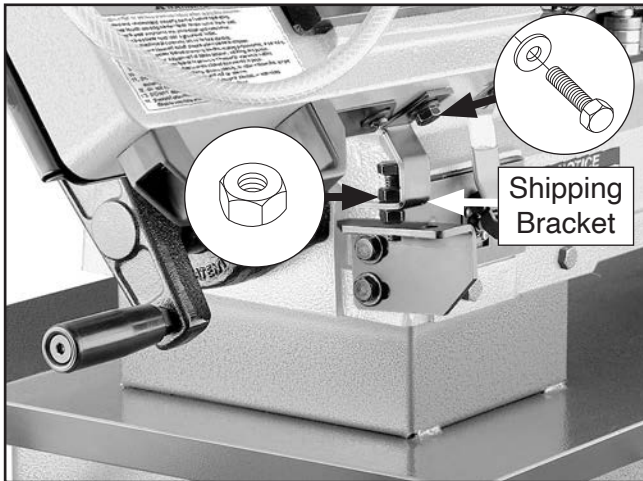

Figure 19. Location of shipping bracket and fasteners.
1. Remove hex bolt and flat washer shown in **Figure 19**.
2. Adjust hex nut shown in **Figure 19** away from shipping bracket to remove bracket.